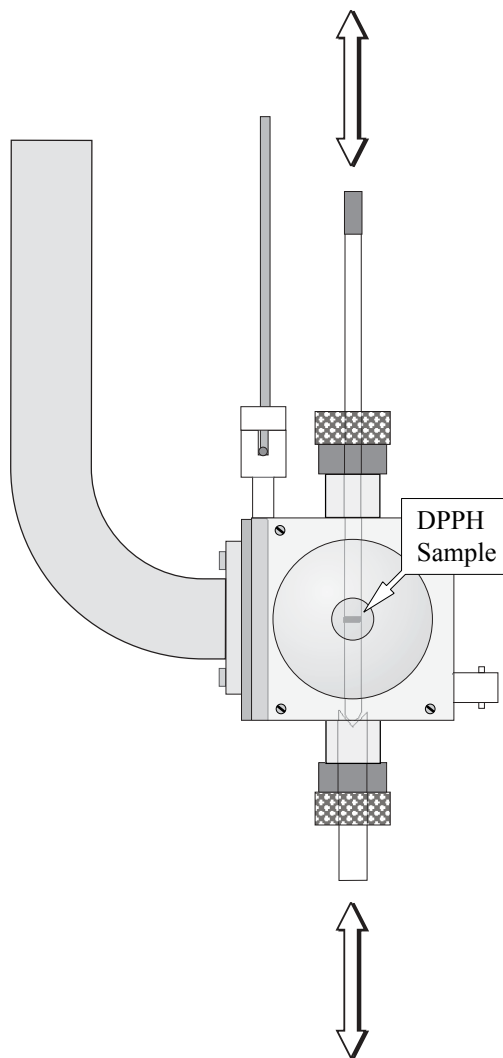

Figure 2-11 Fine adjustment of the DPPH sample height in the cavity.
15. **Optimize the DPPH sample position.** Move the sample tube up and down until the maximum signal intensity is attained. (See Figure 2-11.) Avoid moving the sample from side to side. Perhaps the best technique is to loosen the collet nuts for the pedestal and sample tube and move the sample too low. Then use the pedestal to slowly push the sample up. Sometimes the process of moving the sample tube in the cavity can cause the AFC to lose lock. Re-tune the frequency if this happens. If the signal is clipped, decrease the **Receiver Gain**. Rotate the sample tube until the maximum signal intensity is attained. When you have maximized the signal intensity, secure the sample tube by tightening the collet nuts. Check the matching if needed. You may need to re-center the signal by adjusting the **Center Field** in the **Absc.1: Field** tab.